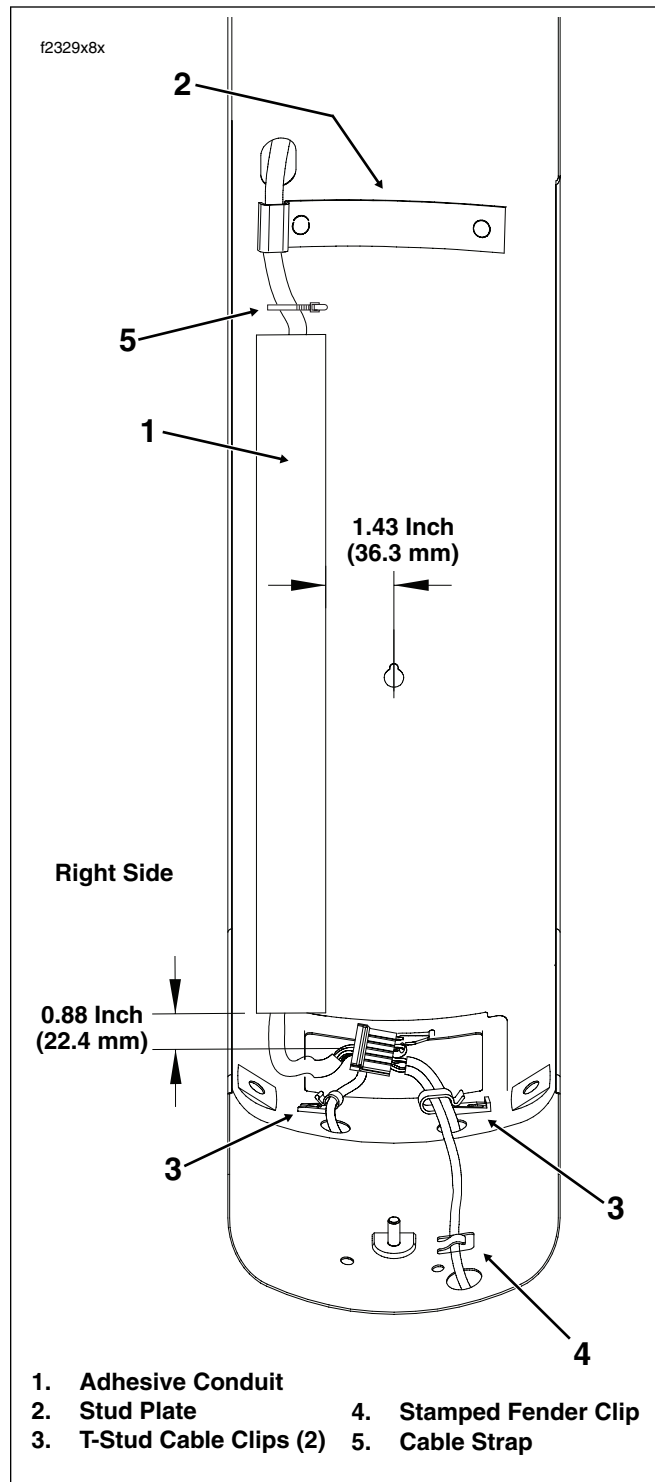

Figure 8-44. Rear Fender Well
- c. Using a soapy Scotch Brite® pad, thoroughly clean fender well in area of adhesive conduit. See Figure 8-44.
Adhesive conduit should be approximately 0.88 inches (22.4 mm) from the chrome base hole and 1.43 inches (36.3 mm) from the fender seat screw centerline. See Figure 8-44.